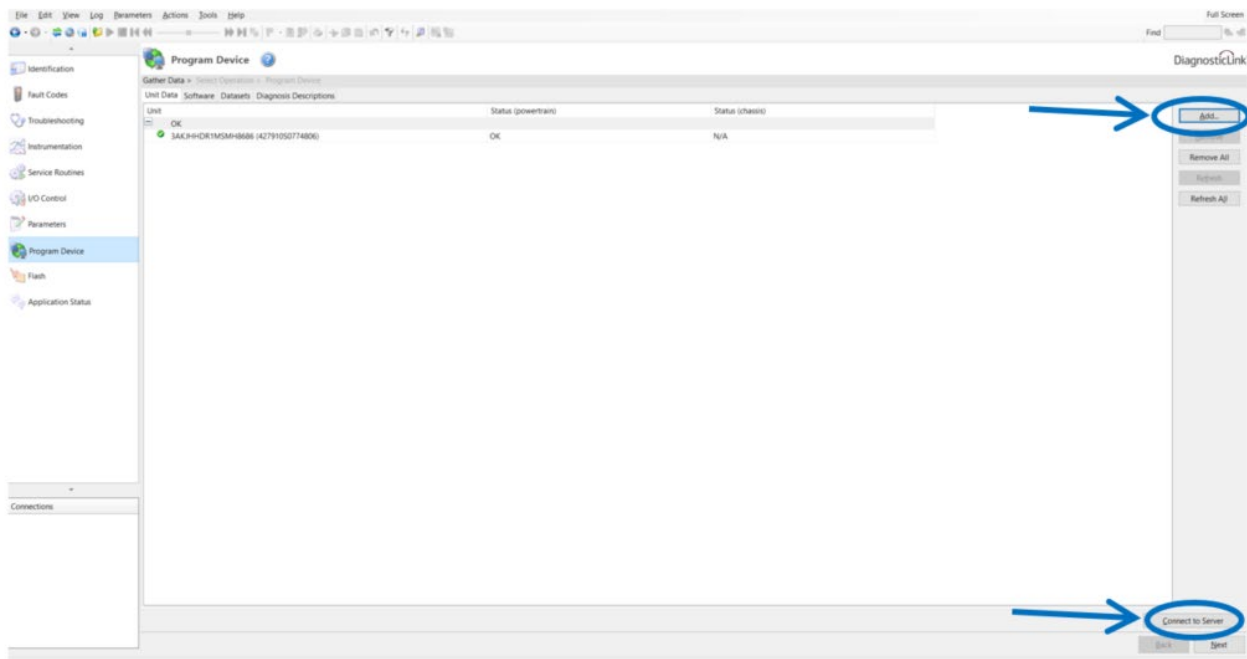

Figure 2 – Adding Engine Serial Number and Connecting To Server
66. Select the "Add" button in the upper right corner of the DiagnosticLink® screen and enter the engine serial number. Then click the "Connect to Server" button in the bottom right corner of the DiagnosticLink® screen. See Figure 2.